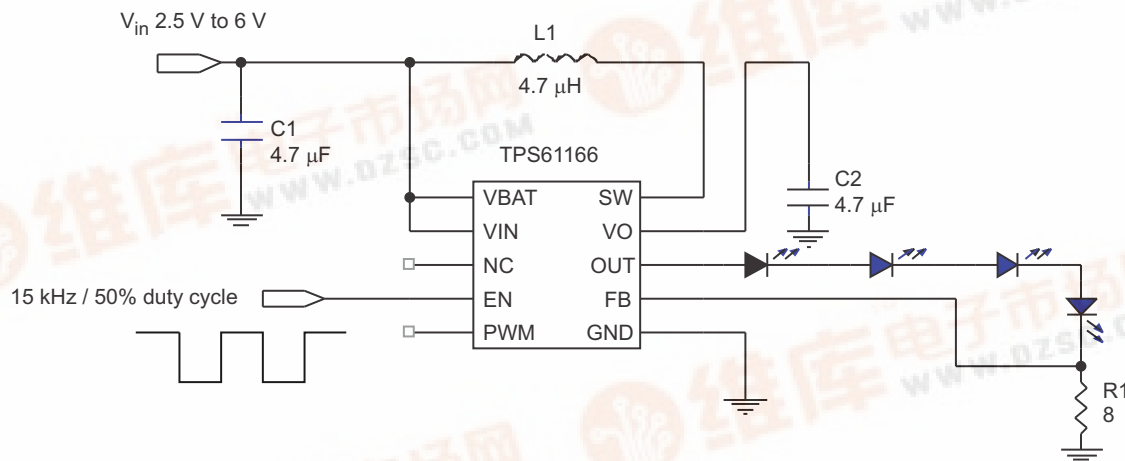
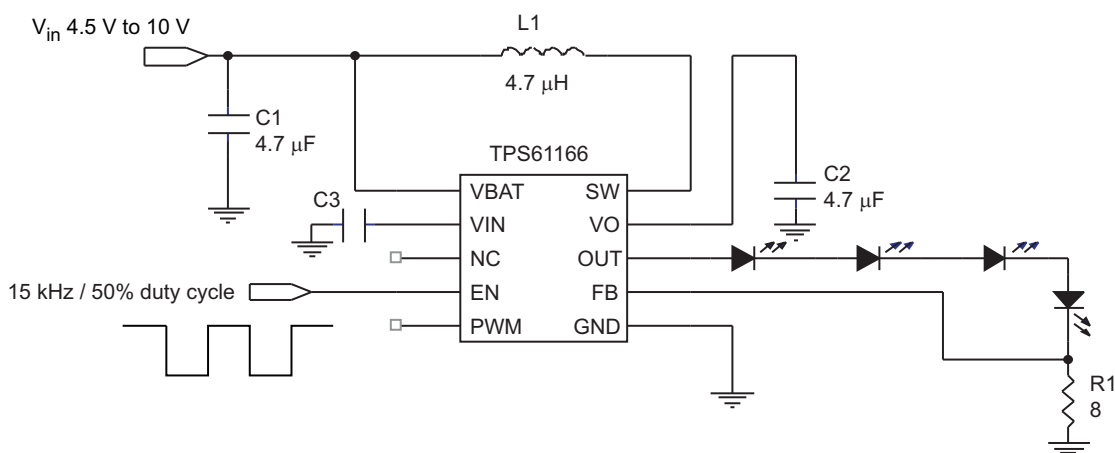

Figure 1. Single Cell Li-Ion Battery Typical Application
Figure 2. Two Cell Li-Ion Battery Typical Application
- (1) These values are recommended values that have been successfully tested in several applications. Other values may be acceptable in other applications but should be fully tested by the user.
- (2) For a two cell Li-ion battery application or input supply above 6 V as shown in Figure 2, C3 is needed for the internal pre-regulator. Otherwise, C3 is not needed as shown in Figure 1.